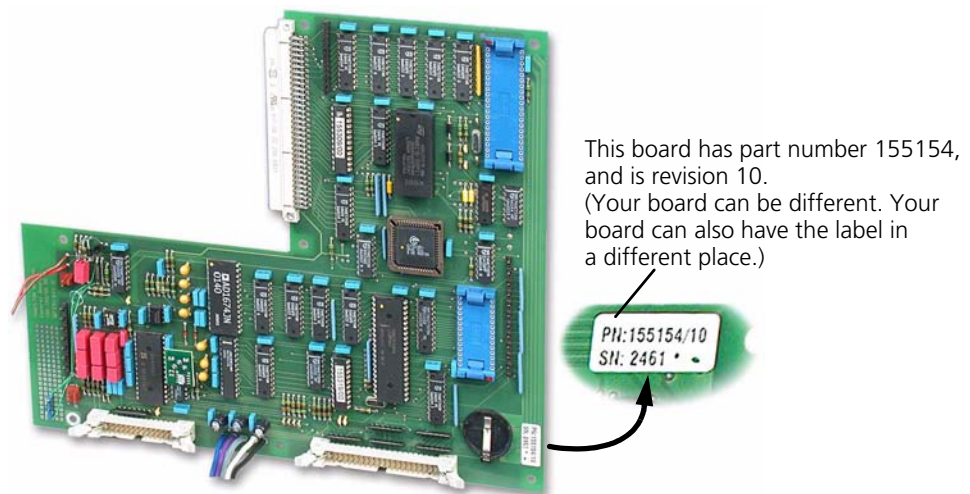

Figure 7-4. Position of label on control board PN 155154
- You can do this by looking at the white label stuck to the board, as shown on Figure 7-4.